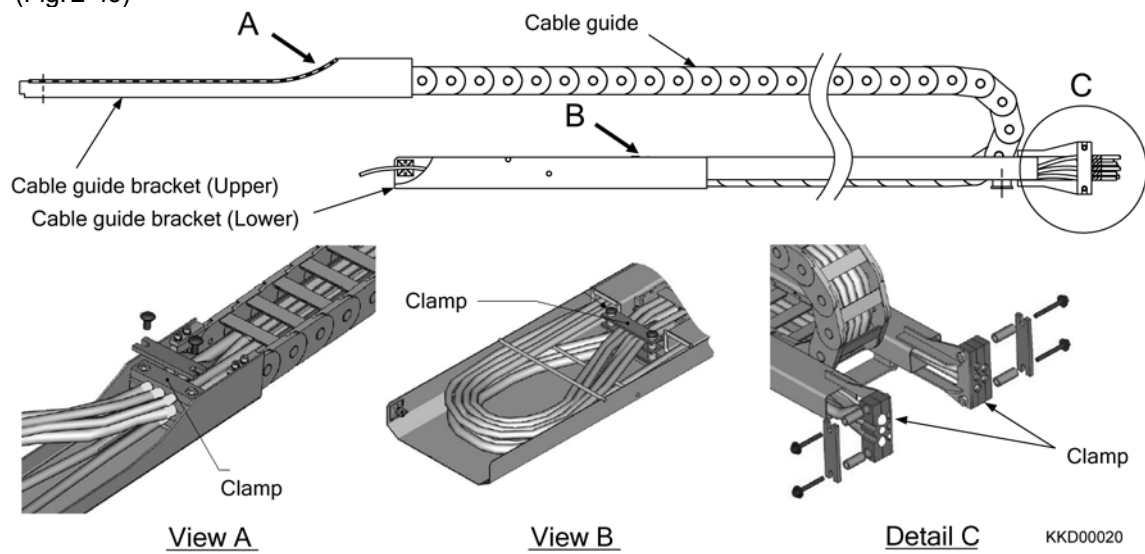

Fig. 2-49
- 24) Remove clamps, and then pull out the cables and hoses from the cable guide bracket (Lower). (Fig. 2-49)